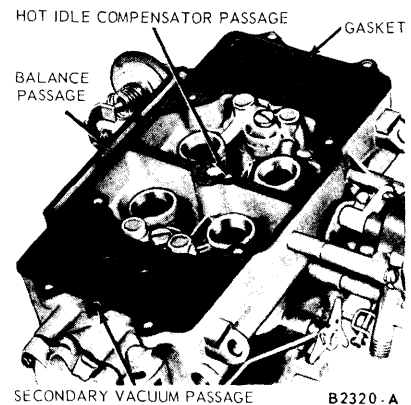

FIG. 29—Main Body Gasket Installation
5. Position the main body gasket on the main body (Fig. 29). Position the air horn on the main body and gasket so that the choke plate rod fits into the opening in the choke housing lever. Install the choke plate rod retainer. **Use care to prevent damage to the secondary throttle control vacuum tube during the air horn installation.** Install the air horn retaining screws, lock washers and the carburetor identification tag.